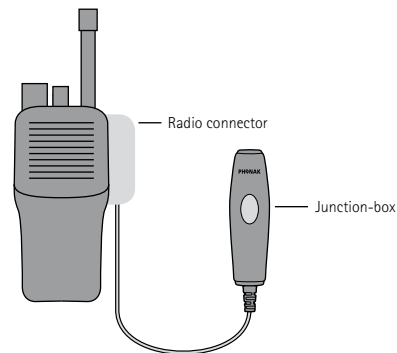

Figure 5
- Attach the **Profilo wiring** to a radio via the radio connector (figure 5). Please refer to the radio user-guide for information on the correct way to attach the connector.